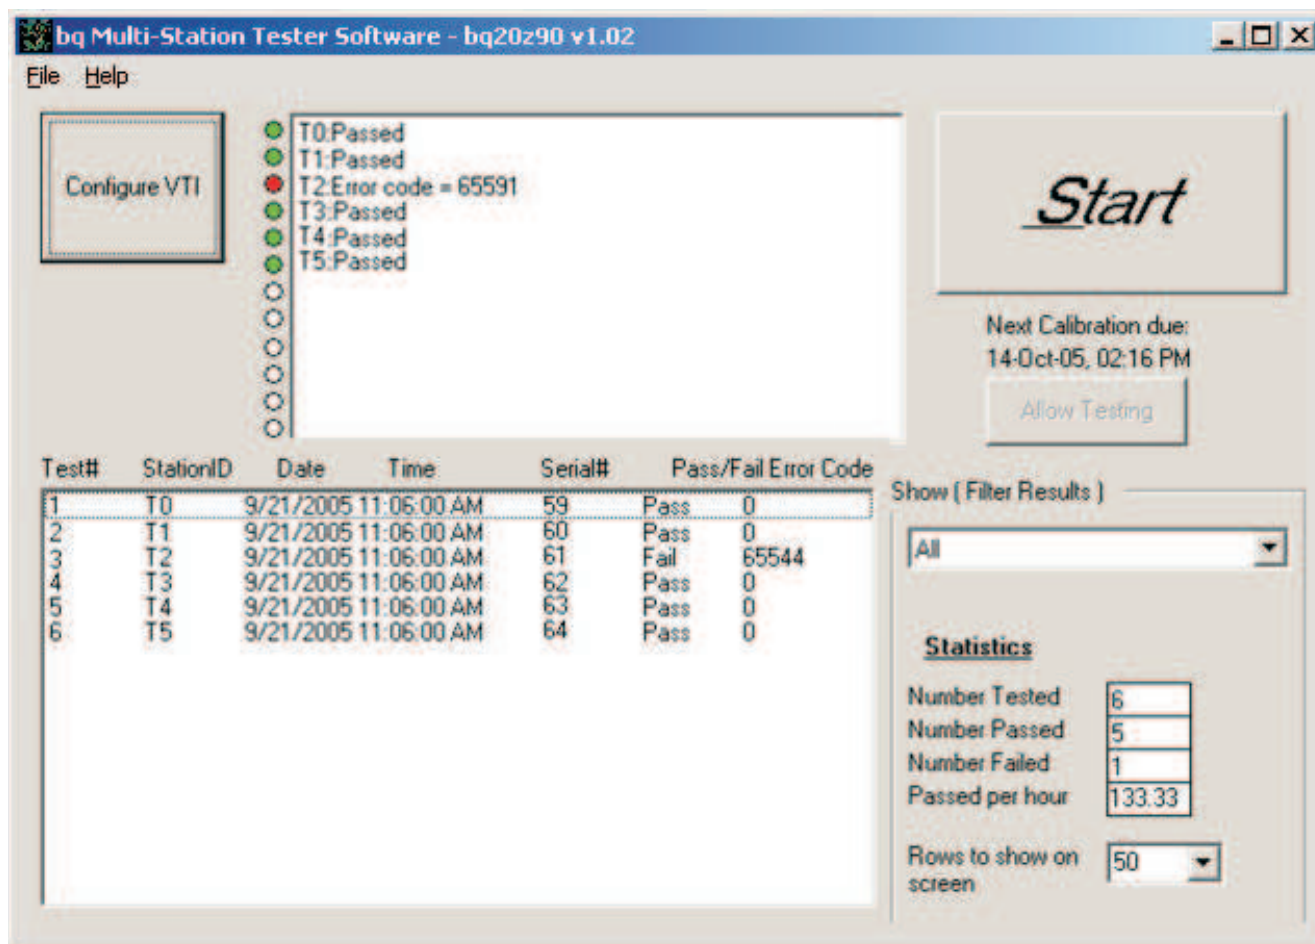

Figure 12. MultiStation Tester Window
26.7.161.57 Progress Text Box The software displays a description of the progress of the test for each station in the text box in the upper center of the main window (see Figure 12). Only stations enabled will be displayed in this window. Next to the Progress Text Box is a column of simulated LEDs adjacent to each station progress entry. After a test finishes, this simulated LED will turn red or green depending on a pass or fail.